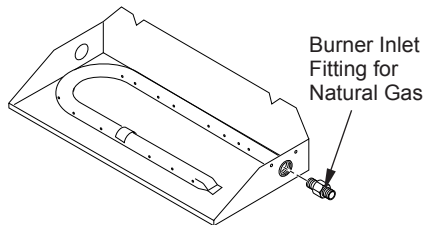
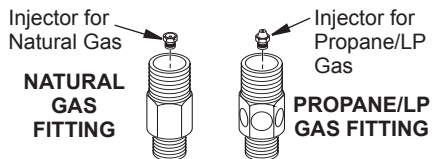

Figure 11 - Remove Burner Inlet Fitting
Figure 12 - Burner Inlet Fittings with Injectors
1. Remove the natural gas burner inlet fitting from the burner pan assembly (see Figure 11). DO NOT remove the orifice from this fitting. The propane/LP burner inlet fitting included in the hardware kit has 6 holes and must be used to replace the natural gas inlet fitting (see Figure 12).
3. Use a 10 mm deep socket or nut driver to thread the new propane/LP orifice into the propane/LP burner inlet fitting (see Figure 12).